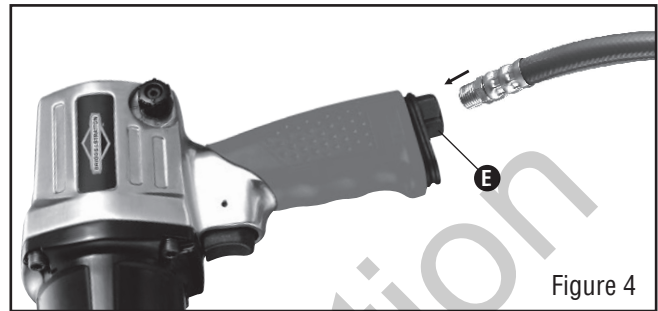

Figure 4
5. Mount a leader hose (not included) by hand into the air inlet (E). (See Figure 4)